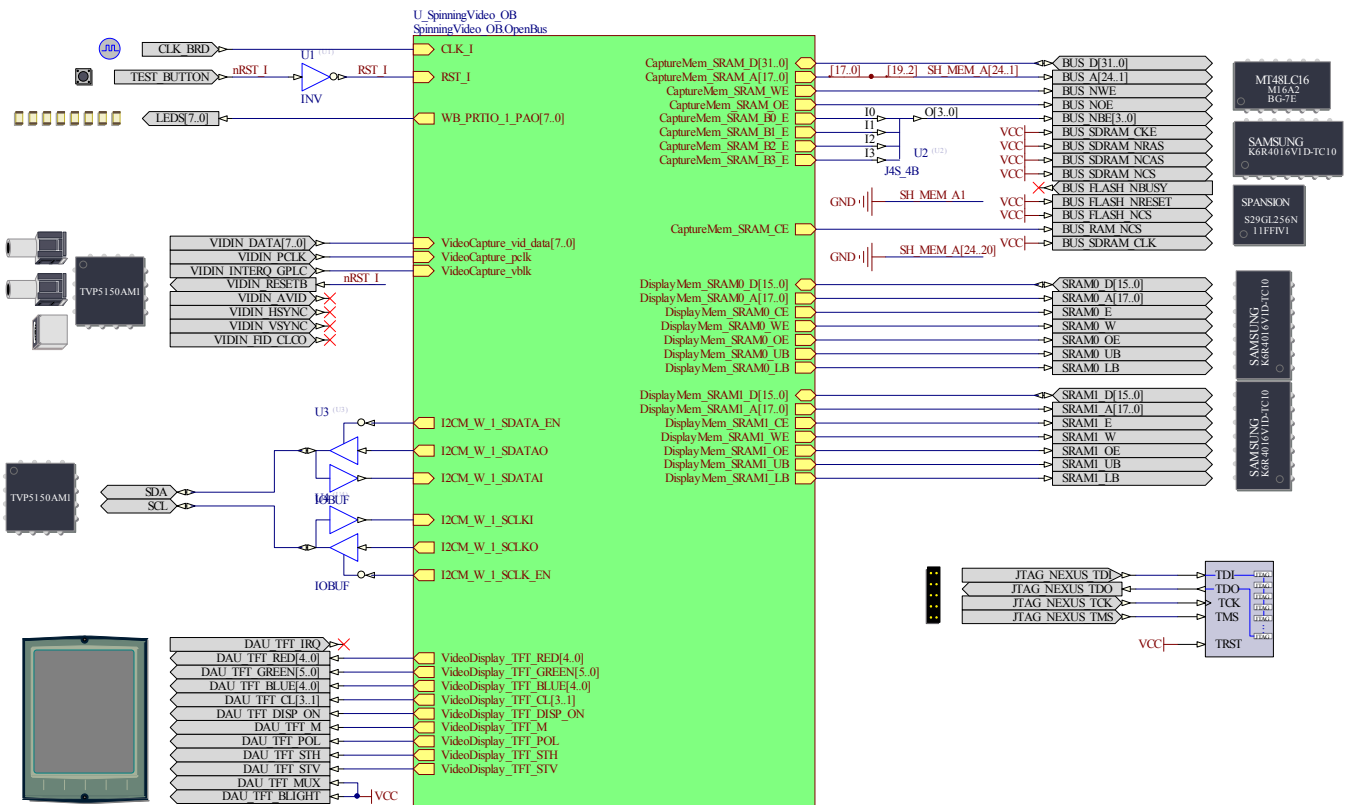

Figure 13. The Completed top-level schematic
4. A completed version of the `SpinningVideo_FPGA.SchDoc` schematic is given in Figure 13. Use this as a guide to position the port plugin components around the sheet symbol and then reorder the sheet entries so that they will line up nicely with them.